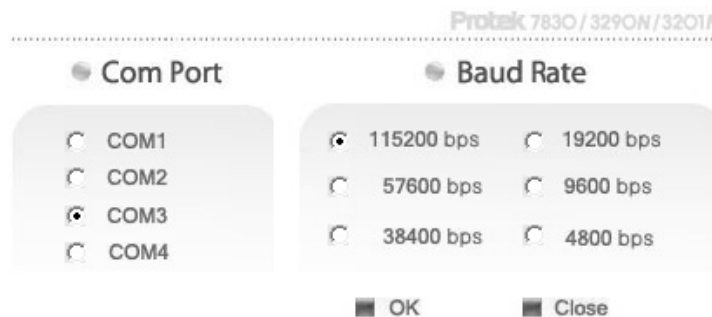

Figure 6.2. The window to set COM Port
- 4) If “F/W mode error” message is displayed on the screen of PC, must reset the COM Port. Select the “ComPort Set” on the display. The window to set the COM Port will be run as like Figure 6.2.